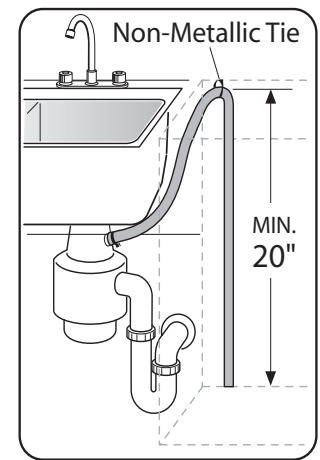

Figure 9
- 2 Directly to a disposer dishwasher drain connection, as shown in **Figure 9**.